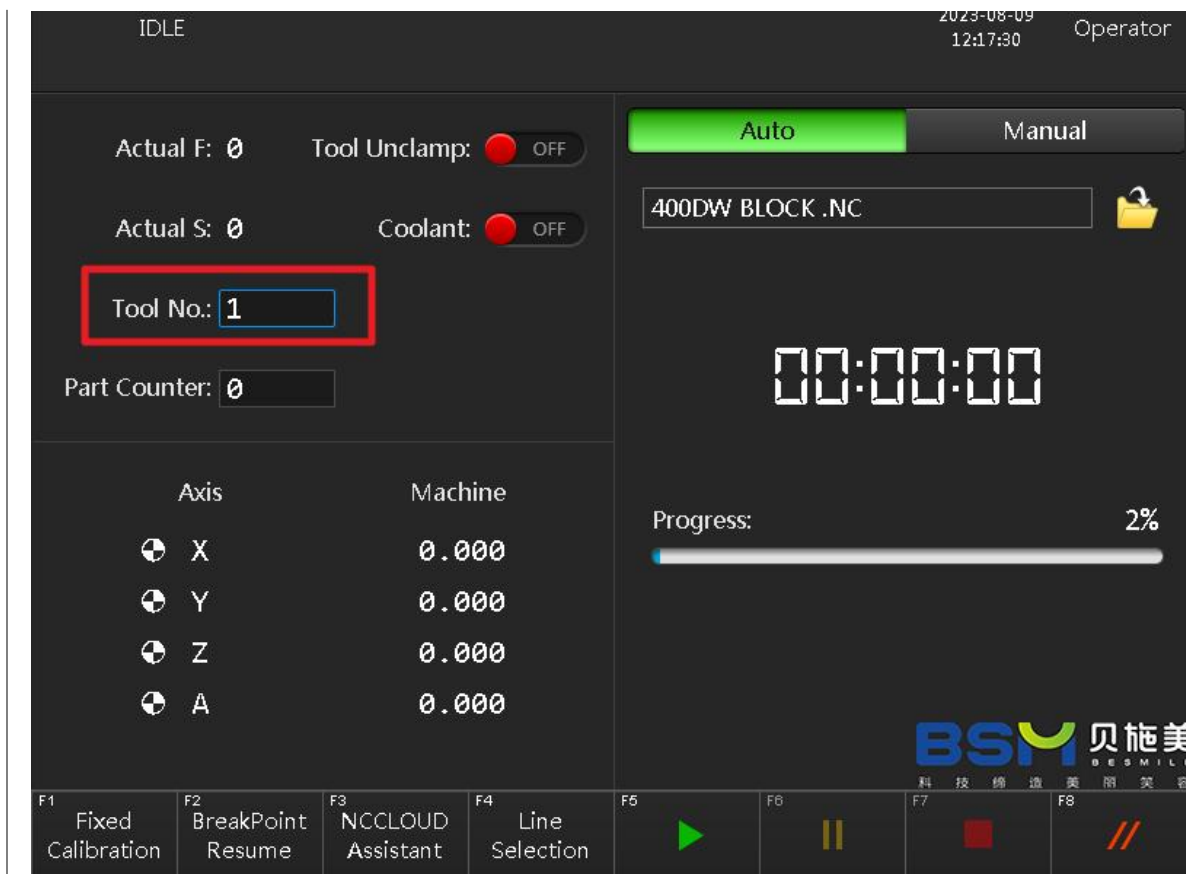

Fig.1
1) For example, the current tool in the system in Figure 1 is tool number 1 and a 3mm tool. Please check whether the tool on the spindle in Figure 2 matches the current tool number in the system in Figure 1. If it does not match, please change the tool number on the system interface to the same serial number as the spindle clamping tool. The specific operation is as follows: